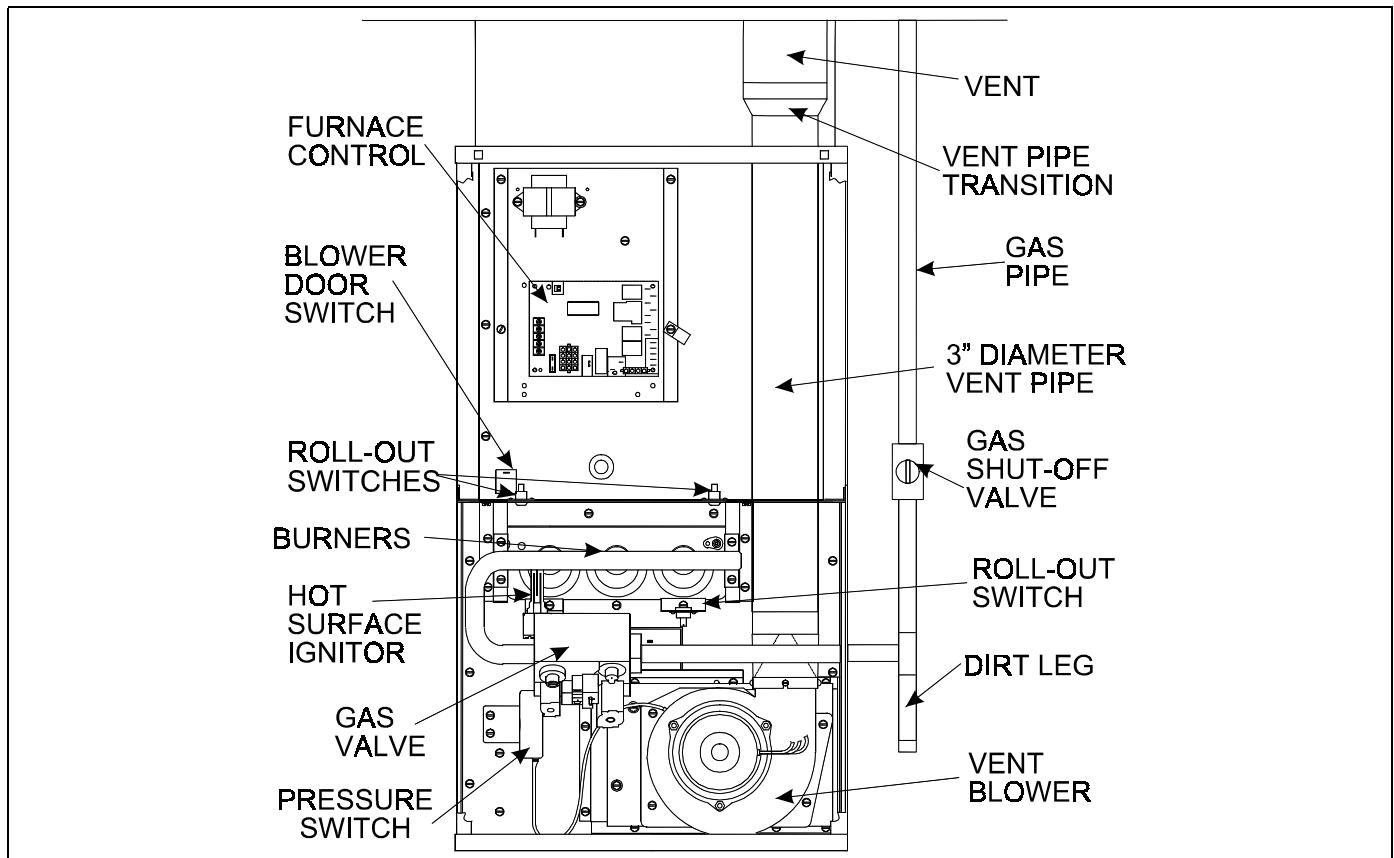
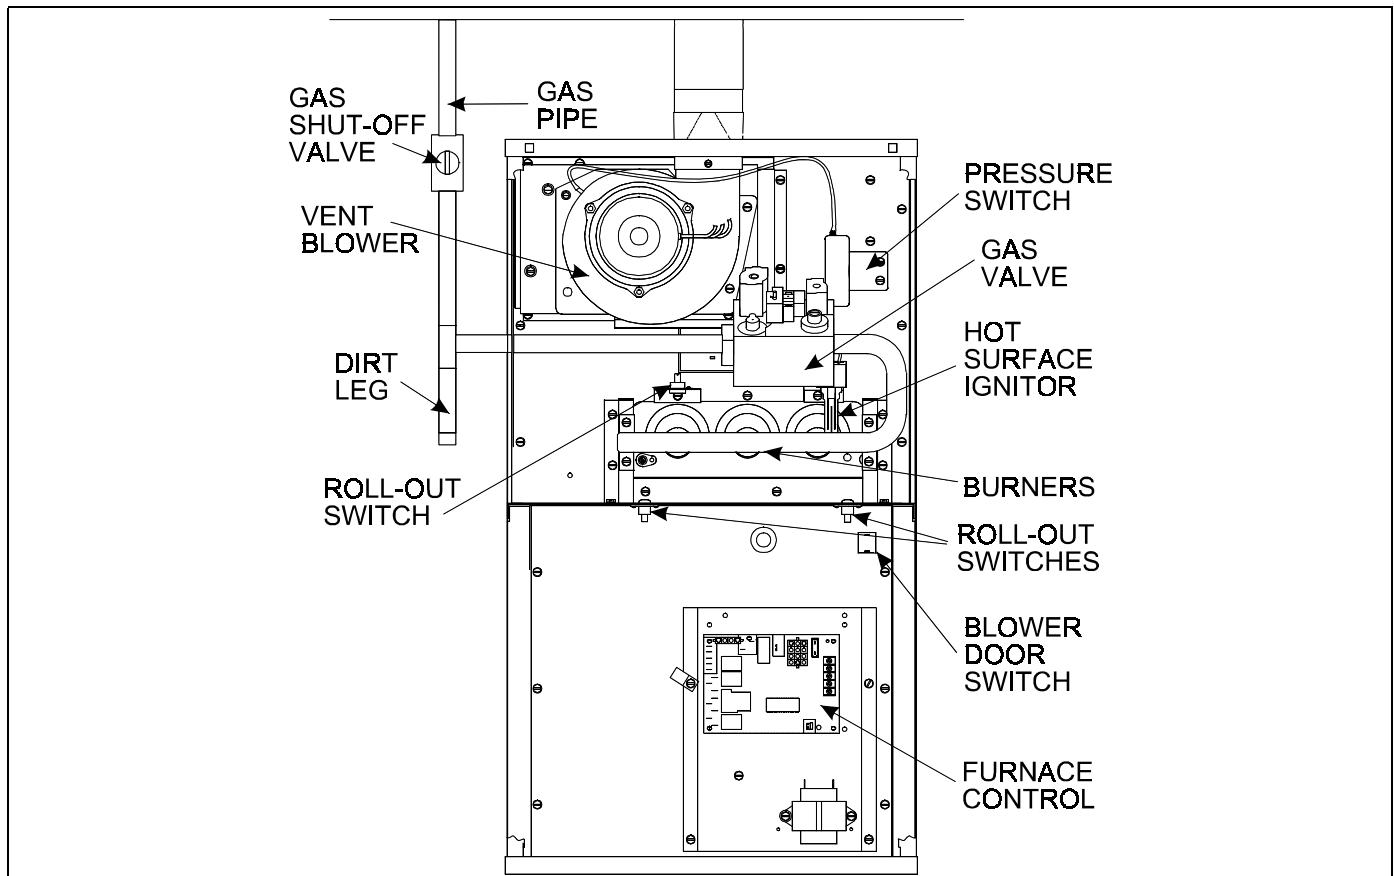

FIGURE 1 – DOWNFLOW POSITION
FIGURE 2 – UPFLOW POSITION
This furnace can be installed in the upflow, downflow, or horizontal position. Figure 1 shows a typical model in the downflow position and figure 2 shows a typical model in the upflow position. The furnace may also lie on either side in a horizontal position. The furnace is equipped with an induced-draft vent blower and atmospheric burners. Combustion air is taken from the space or area in which the furnace is installed and drawn into the burners through the louvers in the front panel. Flue gas is drawn from the furnace by the vent blower and discharged through the flue pipe to the outside atmosphere.
The furnace is equipped with the controls necessary for proper operation. The various components referred to in this manual and on the furnace nameplate are identified in Figures 1 and 2.
6. This furnace is equipped with a BLOWER DOOR SAFETY SWITCH. It is located behind the blower door. See Figures 1 or 2 . The switch controls the electrical power to the furnace and prevents the furnace from operating if the blower door is not in place or is improperly installed.
7. This furnace is equipped with three rollout switches, which are designed to shut down the furnace in the event that excessive rollout occurs. These switches are located near the burners as shown in Figures 1 or 2. If any of these switches shuts down the furnace, do not attempt to restart it. Call a service technician to correct the problem